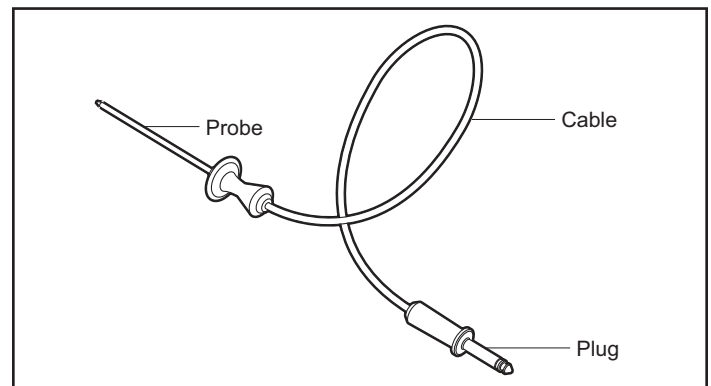

Figure 29: Meat Probe
2. Insert the plug end into the outlet (see Figure 29).